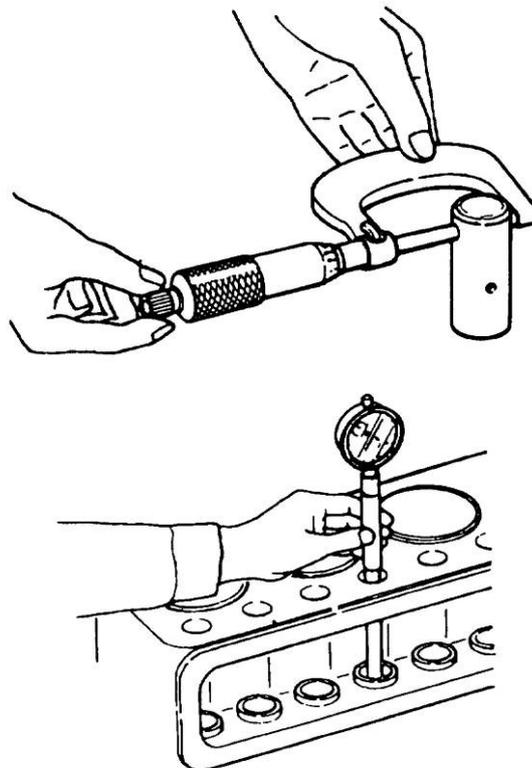

Figure 20 Measuring Camshaft Follower and Bore Wear
- d. Check a camshaft follower bore in the engine block with an internal micrometer (Figure 20) and subtract the diameter of the follower, removed from that bore, from the dimension found. The standard clearance is 0.02 to 0.10 mm (0.0008 to 0.0039 in). Repeat this procedure for each bore and camshaft follower. Replace the engine block if any bore exceeds the limit.